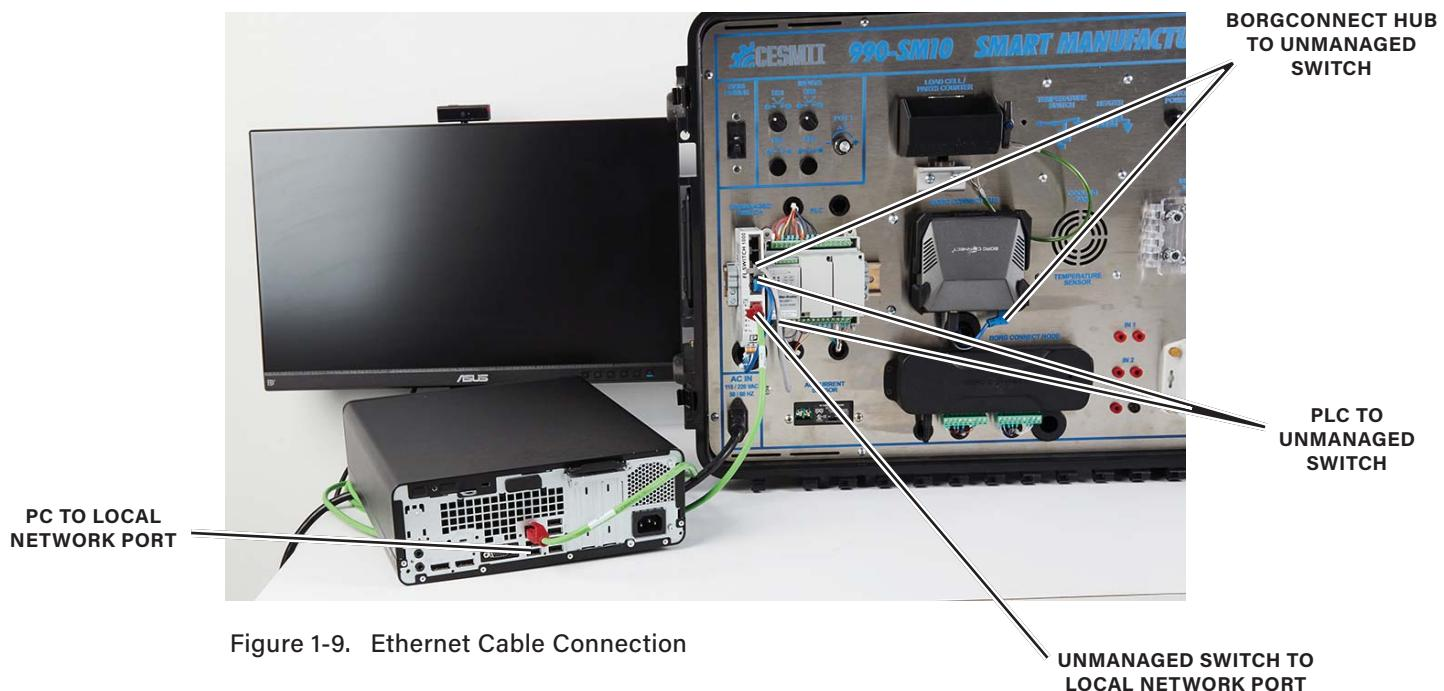

Figure 1-9. Ethernet Cable Connection
- B. Connect the Ethernet cables between the unmanaged switch, PLC, and the PC as shown in figure 1-9.